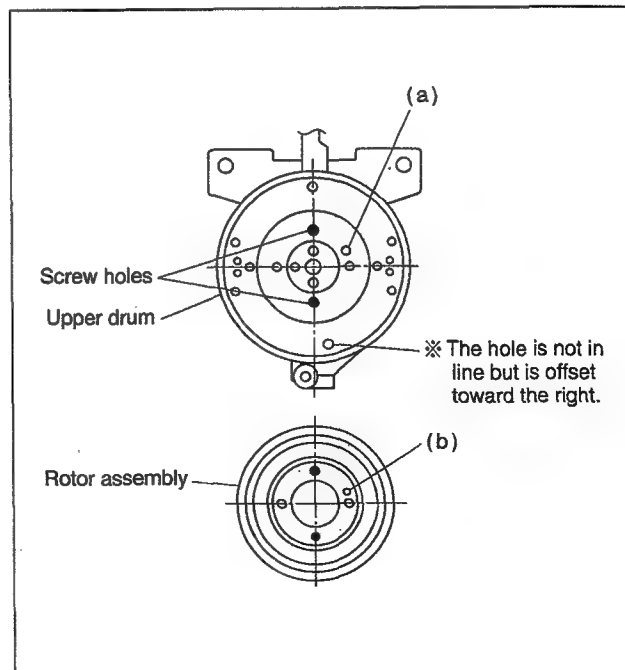

Fig. 2-2-38
- (3) Match the phases of the upper drum and the rotor assembly as indicated in Fig.2-2-38.
- (4) Place the upper drum hole (a) over the rotor assembly holes (b) (with three holes to be aligned) and tighten the two screws (B). (See Fig.2-2-38)